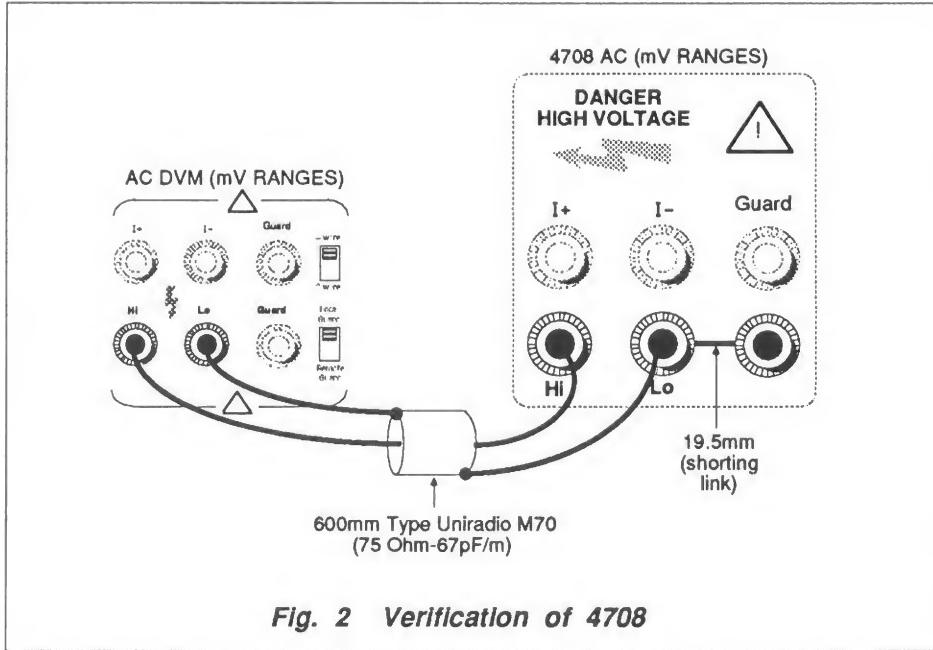

Fig. 2 Verification of 4708
- d. Set 4708 OUTPUT OFF, and reconnect the test circuit for Verification (Fig. 2).